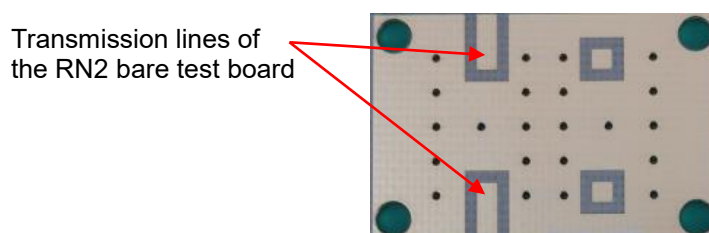

**Figure 5. RN2 Test Board Layout**
**Figure 5** shows the RN2 test board layout used for testing the DL4 RF performance. The RN2 test board is based on the Taconic RF35 board with the dielectric constant of 3.5, board thickness of 0.8 mm, and copper of 1 Oz.
We recommend that you use the same material and design layout, as shown in **Figure 5**, to meet the specifications in this datasheet. However, if you use different materials, you must follow the basic guidelines. See ‘RECOMMENDED PCB LAYOUT AND SOLDER MASK PATTERN’ for more details.